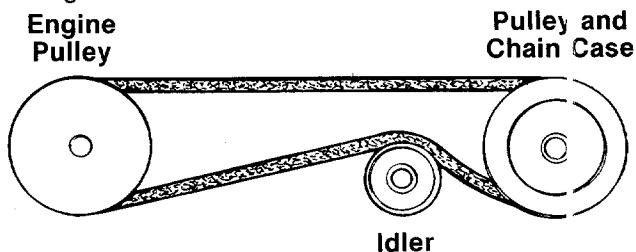

FIGURE 31.
5. Reassemble using the new belt, making certain the idler pulley is under the belt. See figure 31.